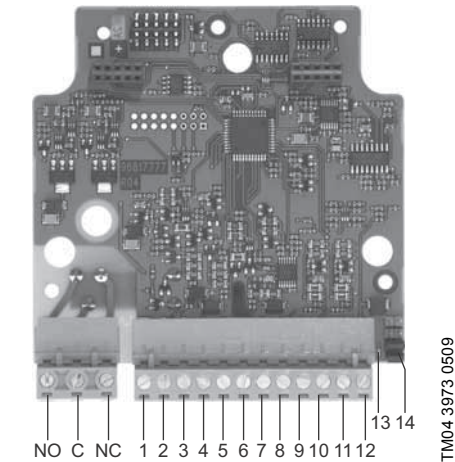

Fig. 1 IO module
The IO module has two configurable inputs. Each of the inputs can be used either as an analog input or as a digital input. See fig. 1, pos. 2 and 4. The configuration is done by setting two jumpers for each input.